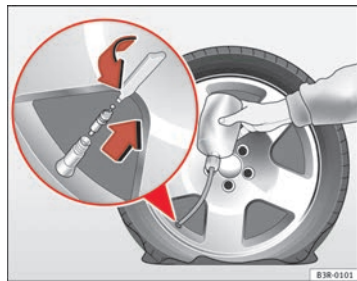

Fig. 185 Repairing a tyre
- Take the valve cap off the tyre valve and use the enclosed valve insert tool to unscrew the valve insert ⇒ fig. 185.